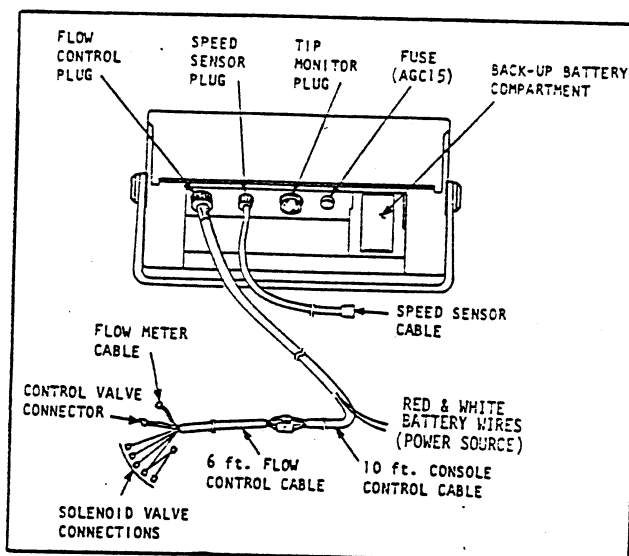

FIG. 9
■ Connect the Console Control Cable (10-feet) to the plug in the back of the Console. See FIG. 9. Route the Control Cable through the grommated hole in the dash panel and connect it with the Flow Meter Cable (6-feet).
■ Connect the Speed Sensor Cable into the plug in the back of the PRO-CONTROL Console. See FIG. 9.